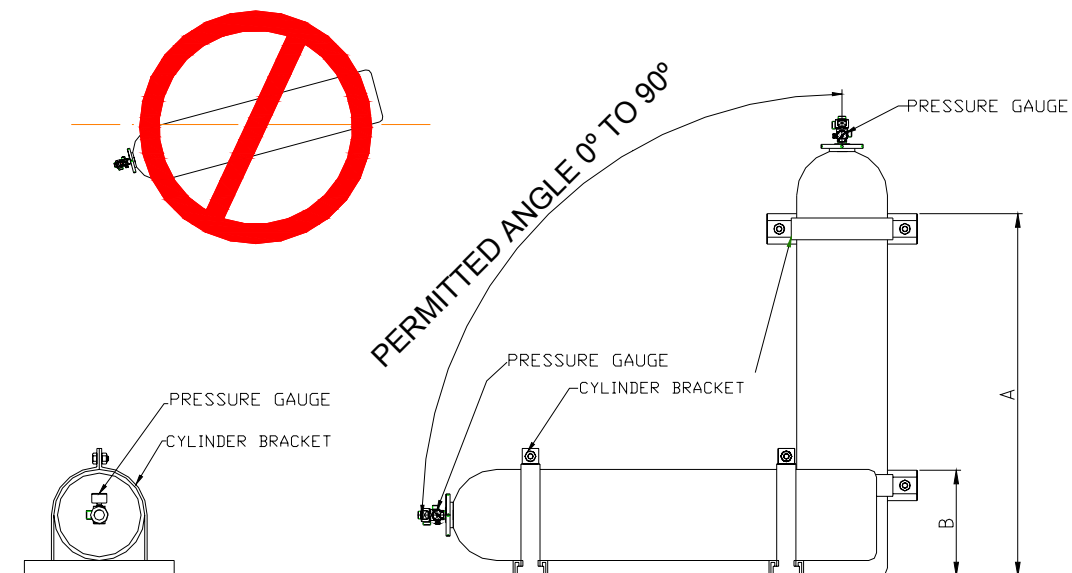

Figure 19. Typical cylinder installation – horizontal fixing.
2. When the cylinder is fixed by its brackets, in a horizontal position, the valve pressure gauge must be in view facing the ceiling. The valve outlet will thus be in a horizontal position parallel to the floor. (see figure 19).